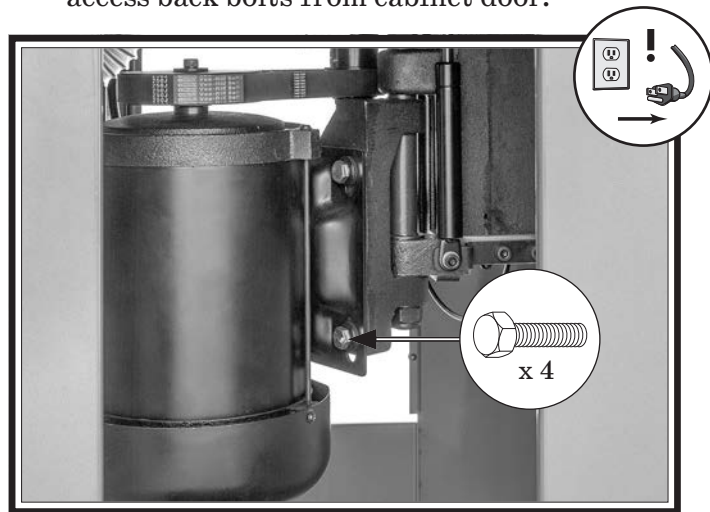

Figure 96. Location of motor mounting bolts.
5. Loosen (4) hex bolts securing motor mount to bracket (see **Figure 96**). It may be easier to access back bolts from cabinet door.